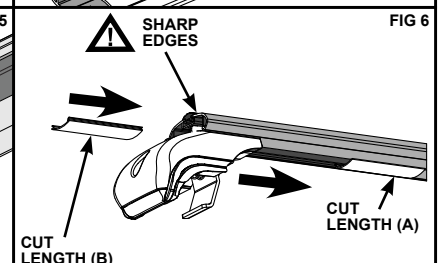

FIG 6
- Insert the M8 Nut into the cavity on the Commercial Slug. Insert the Commercial Slug into the Cross Bar, and align it so that the M8 Nut in the Commercial Slug and the hole at the bottom of the End Support line up (Fig. 6).
4. Next, insert all four End Supports into position. Using the remaining lengths of Undercover Strip, insert into the remaining gap of the Cross Bar until it touches the edge of the End Support. Trim the strip back to align with the edge of the Cross Bar for all four 'Cut Length (B)' strips as shown in Figure 6.